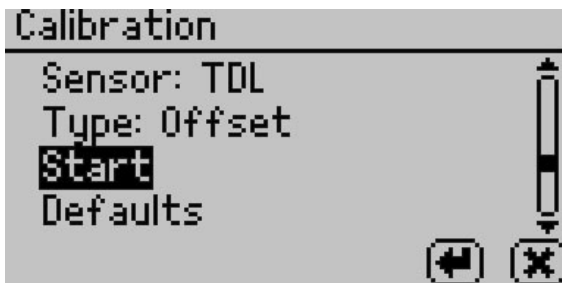

Figure 49 Start calibration
- Select **Start** (Figure 49).